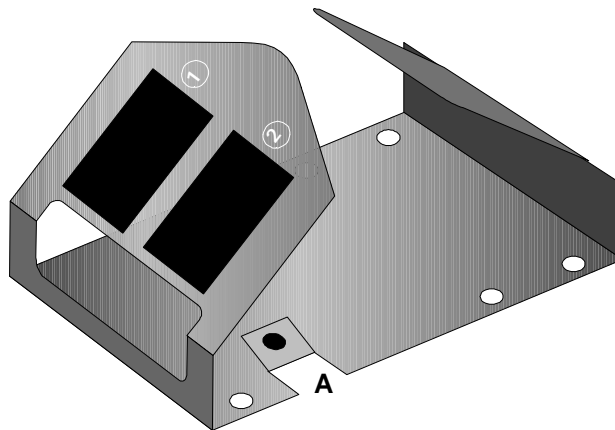

Figure 23 - Hard Drive Insulator Flap
2. If the new hard drive has screws in different positions from the old one, the insulator sheet will also need to be adjusted. Compare the location of the screw-holes in the new hard drive with those in the insulator sheet. If there is *no* screw at position A, then *unfold* the flap at position A, and lay it flat before laying the hard drive down on the insulator. See Figure 23.